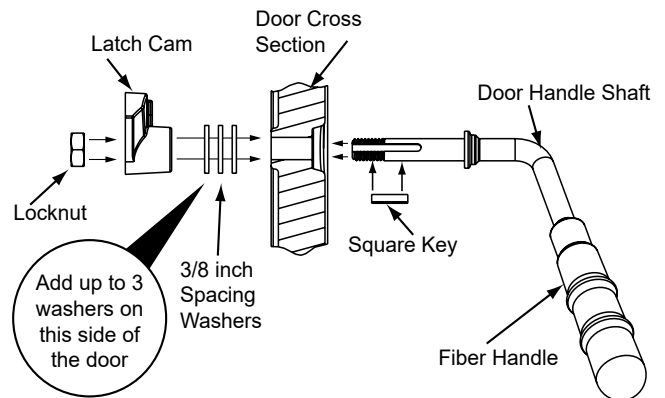

Figure 27.2
1. Slide door handle shaft through hole on door (**Figure 27.2**).